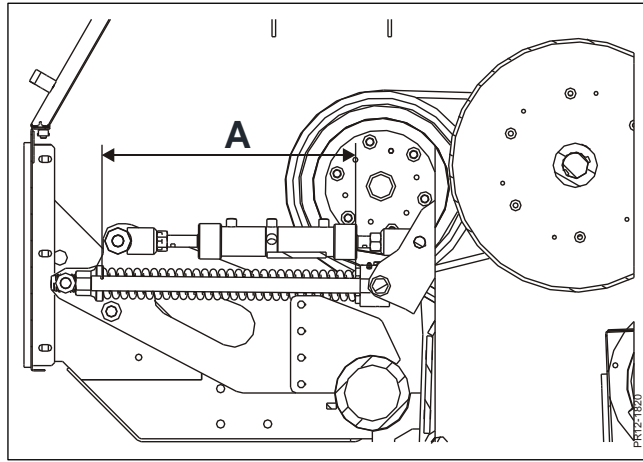

Fig. 4-36
**Fig. 4-36** The tightening of the belt drive is determined by the spring which is tightened to the length "**A**" = **400 mm**, when the reverse function is in "feed in".